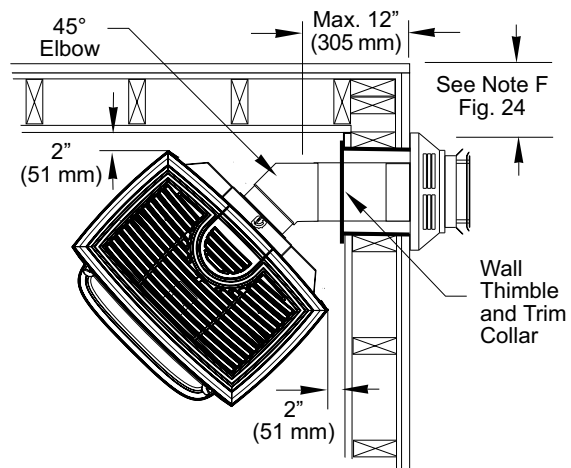

Figure 4.16. Corner installation with 36" Snorkel termination. Maximum horizontal run is 12".
- One 45° Elbow may be used for a corner installation as shown in fig. 4.16.